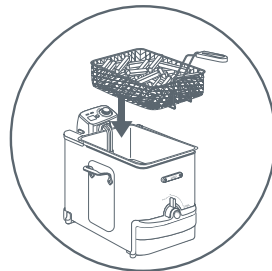

Fig. 8
- Fill the basket before placing it in the deep fryer (see the cooking tables page 16) – fig. 8. Do not overfill the basket. Reduce the quantities for frozen foods.